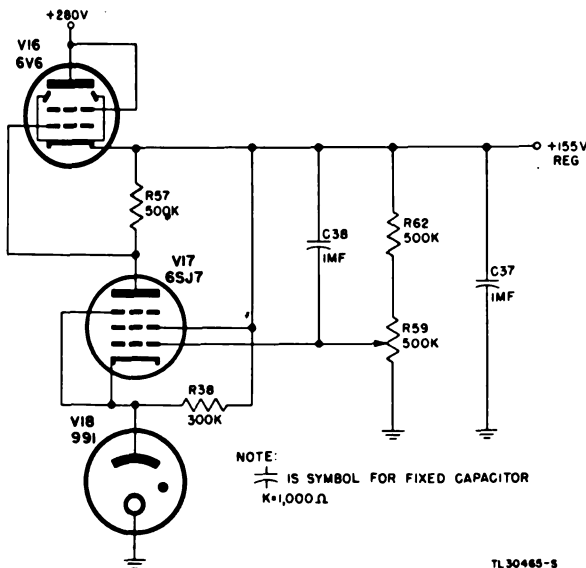

Figure 23. Voltage regulator simplified schematic diagram.
37. VOLTAGE REGULATOR (fig. 23).
Part of the output of the positive 280-volt power supply is regulated by the voltage regulator consisting of V16, V17, and V18 and is supplied to the plates of the amplifiers (fig. 24). The purpose of the regulated voltage is to prevent movement of the picture on the oscilloscope screen such as would be caused by power-line fluctuations. The circuit is shown in figure 23, and its operation is as follows: